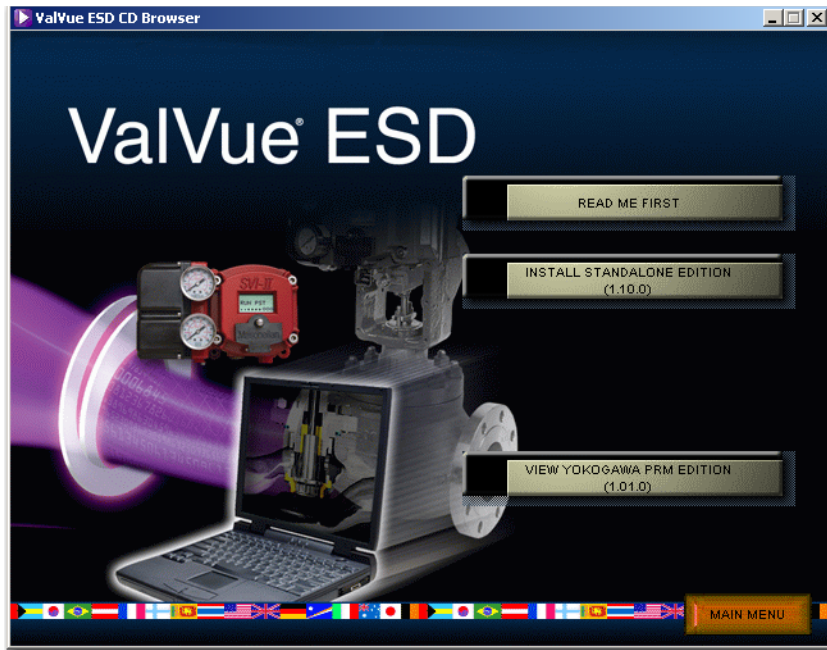

Figure 20 Software Choice
2. Select **INSTALL SOFTWARE** and a screen appears (Figure 20).